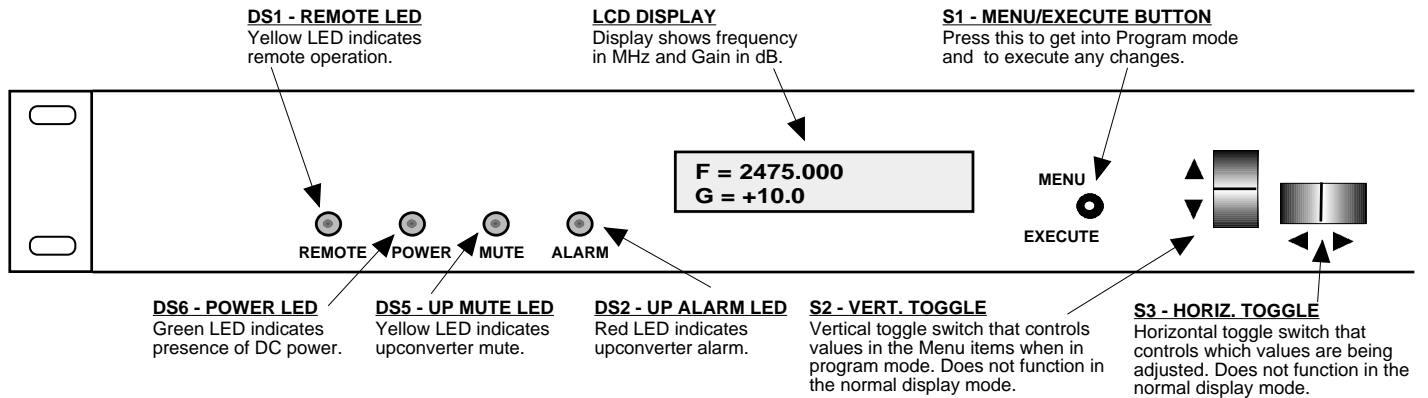

FIGURE 2.3 2015-25 Front Panel Controls and Indicators
7. Be sure DS6 (green, DC Power) is on and DS2 (red, Alarm) is off (Figure 2.3).
Alarm indications appear on the LEDs (See figure 2.3).